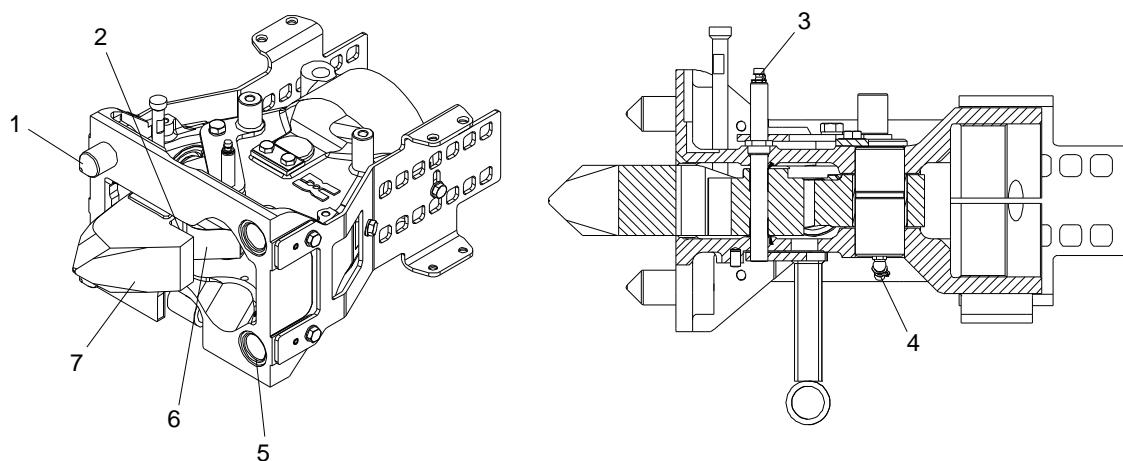

Figure 6-1: Lubricate Mechanical Coupler
1. Grease with Lagermeister 3000+ through grease fitting (3) and main pin grease fitting (4). The main pin grease fitting is located on the underside. Use grease gun and apply until fresh grease is pressed out of the bearings. Wipe off excess grease. See Figure 6-1.
3. Perform external greasing with Lagermeister 3000+ on hook "inside" (2) and flat front (7), uncoupling cam (6), guide pin (1) and guide bushing (5).